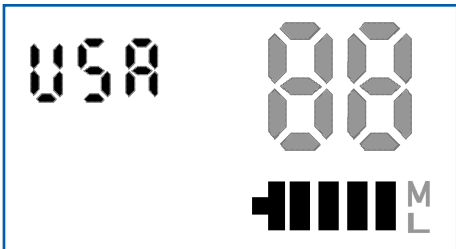

Fig. 5 Channel Change Display
- The radio displays the channel number, memory status (**MEM**) and TX power status of the channel as you change the channels. (Fig. 5)